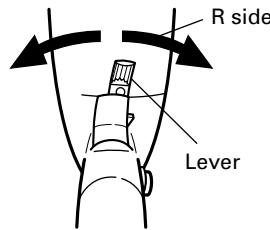

Fig. 2
**6. Confirm the direction of bit rotation (Fig. 2)**